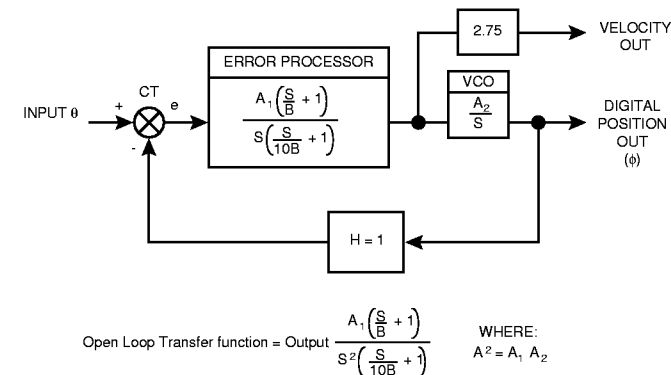
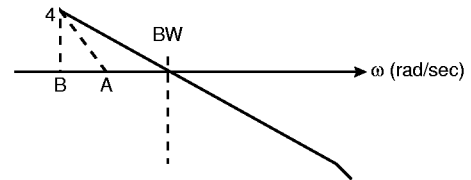

FIGURE 7. CONTROL LOOP BLOCK DIAGRAM
FIGURE 8. OPEN LOOP BODE PLOT
A Type II servo loop ($K_v = \infty$) and very high acceleration constants give the SDC-14560 superior dynamic performance, as listed in TABLE 2. If the power supply voltages are not the ± 15 V DC nominal values, the specified input rates will increase or decrease in proportion to the fractional change in voltage. A Control Loop Block Diagram is shown in FIGURE 7, and an Open Loop Bode Plot is shown in FIGURE 8. The values of the transfer function coefficients are shown in TABLE 3.
The Velocity output (VEL) from the SDC-14560 is a DC voltage proportional to angular velocity $d\theta/dt = d\phi/dt$. The velocity input is the second integrator, as shown in FIGURE 7. Its linearity is dependent solely on the linearity of the voltage controlled oscillator (VCO). Due to the highly linearized VEL output, the electro-mechanical tachometer can now be eliminated from motion control systems. Bandwidth (BW) and the acceleration constant (K_a) can be determined from the formulas shown: